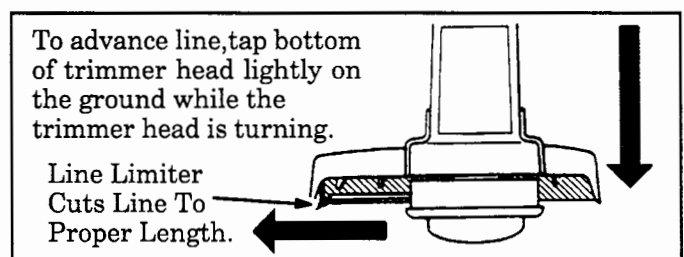

Figure 10
- Always keep the shield in place when the unit is being operated. Figure 10.
2. Tap the trimmer head lightly on the ground one time. Approximately 1 1/2 to 3 inches of line will be advanced after each tap. Figure 10.